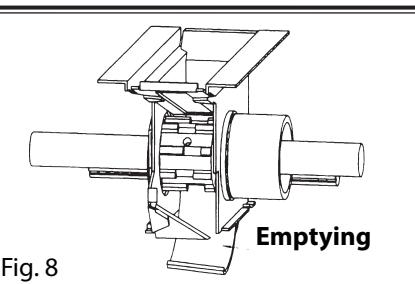

Fig. 8
- It empties the hopper into the calibration cup (fig. 8).